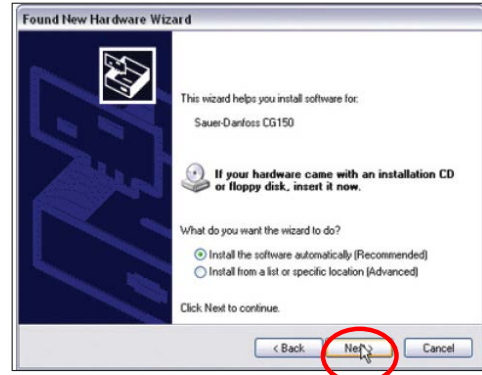

Figure 19. CAN Driver Installation
4. When the CAN Gateway cable is connected to the trowel for the first time, it is necessary to install the CAN driver software. The installation screen will appear (Figure 19). Click "Next" to install the software automatically (default).